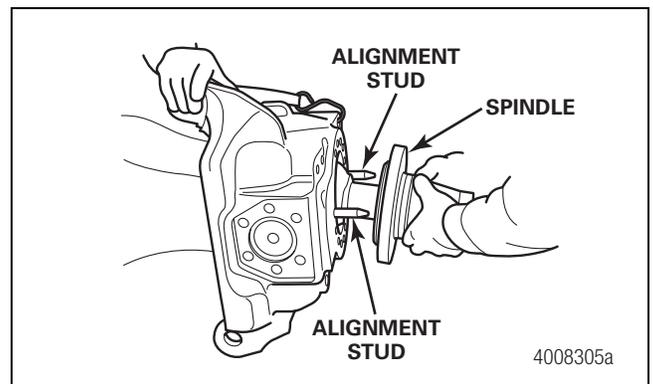

Figure 8.7
11. Use steel rods or studs to help align the spindle to the knuckle. Figure 8.7.